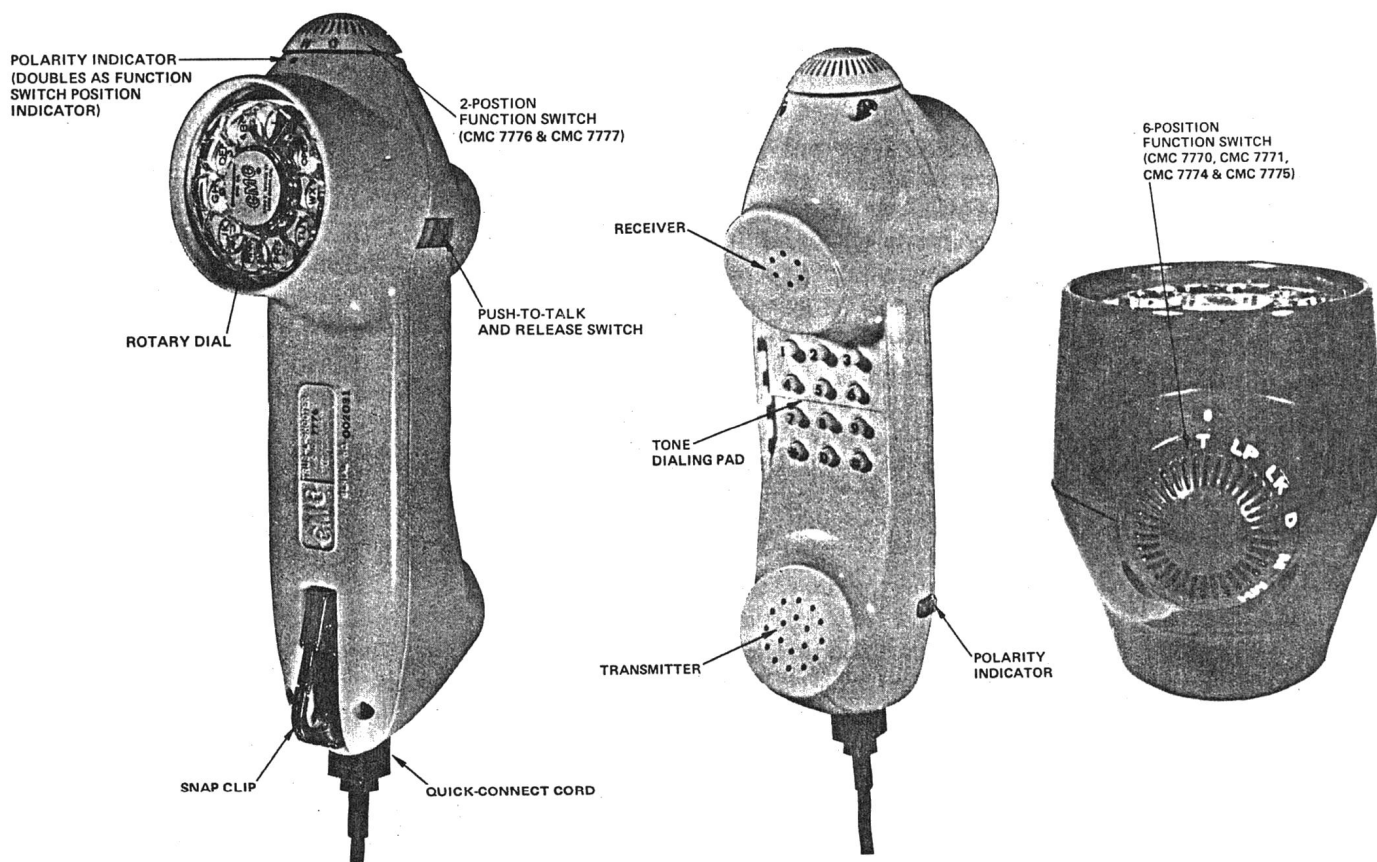

Figure 5 Trub-L-Shooter Showing Location of Controls and Parts Referred to in the Text.
3.01 The CMC 7770, CMC 7771, CMC 7774 and CMC 7775, Trub-L-Shooter operation is controlled by a six-position function switch on the receiver end; a side-mounted Push-to-Talk and Release switch and the rotary or tone dials (see Figure 5).
3.04 The CMC 7776 and CMC 7777 Trub-L-Shooter operation is controlled by a two-position function switch on the receiver end; a side-mounted Push-to-Talk and Release switch and the rotary or tone dials (see Figure 5).